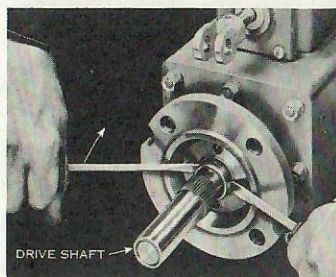

FIG. 25-1
3. Remove drive shaft assembly from bore in base. See Fig. 25-1.